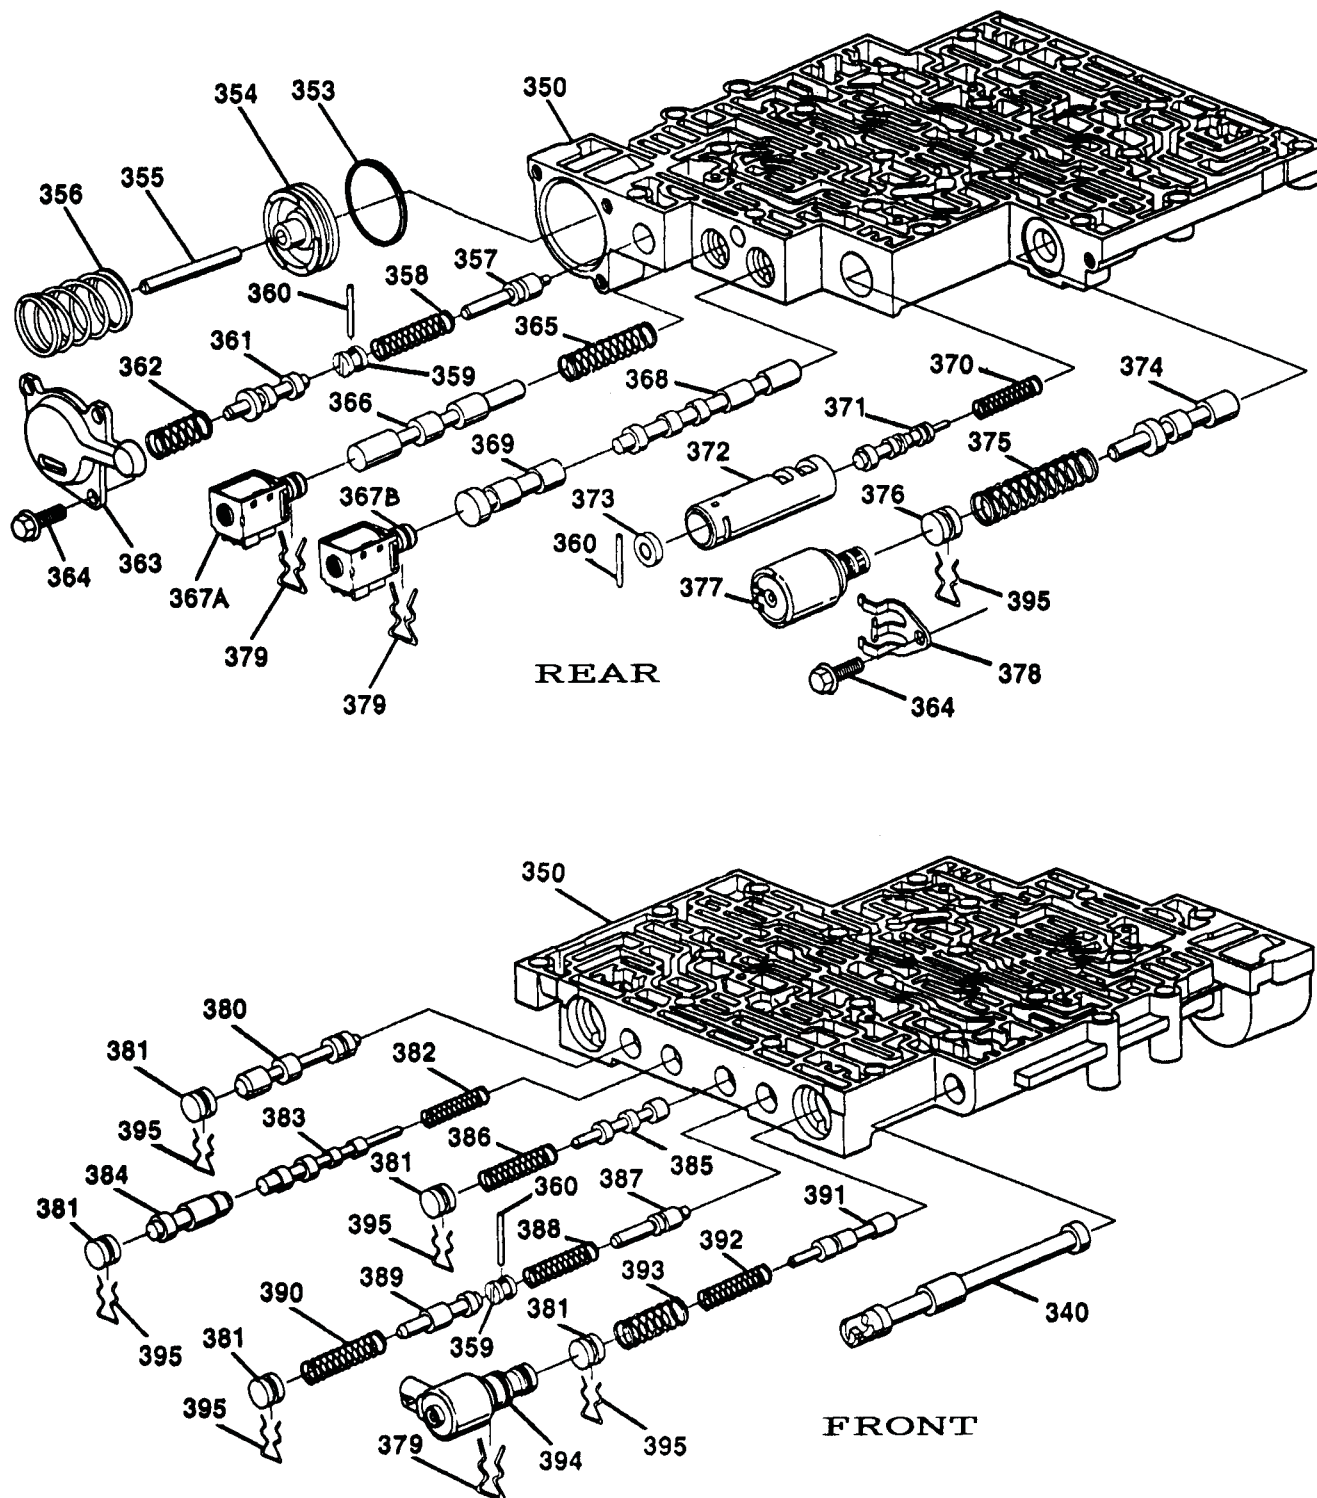

Figure 156
13. Use the illustrations in Figures 156 and 157, to reassemble the valves, springs and bushings in their proper order.